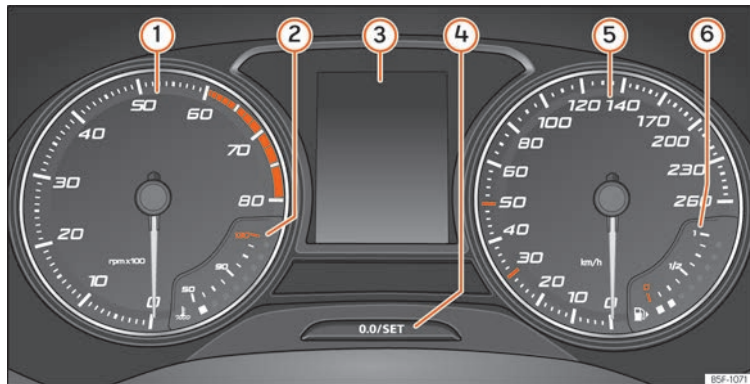

Fig. 111 Instrument panel, on dash panel.
Details of the instruments » **Fig. 111:**
The rev counter indicates the number of engine revolutions per minute » Fig. 111 ①.
① CAUTION
Never allow the rev counter needle ① » Fig. 111 to go into the red zone on the scale for more than a very brief period, otherwise there is a risk of engine damage.
A variety of information can be viewed on the instrument panel display » Fig. 111 ③ depending on the vehicle equipment:
- Briefly press the button » Fig. 111 ④ to reset the trip recorder to 0.
- Keep the button ④ pressed for about 3 seconds and the previous value will be displayed.
- To set the time, keep the button **»» Fig. 111 4** pressed for more than 3 seconds to select the hour or minute display.
Hold the button **»» Fig. 111 4** down for more than 15 seconds to display the identifying letters of the vehicle engine (LDM). To do this, the ignition must be switched on and the engine switched off.